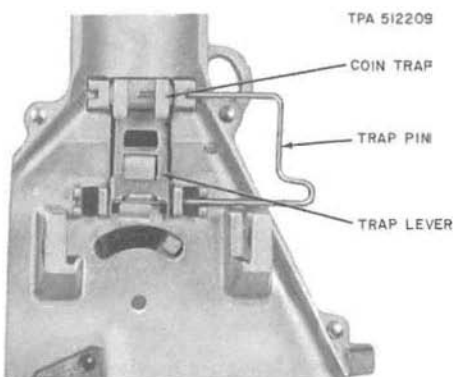

Fig. 32—Placing Coin Trap in Hopper
- (2) Insert coin trap in hopper and engage pin in trap (Fig. 32).